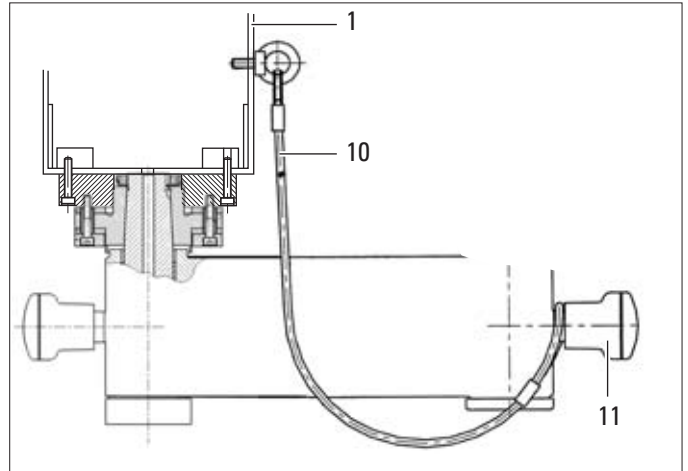

Fig. 2
⇒ Fit the torsion protection (10) to the ceiling tube (1) and to the clamping knob (11) of the horizontal arm (Fig. 2).